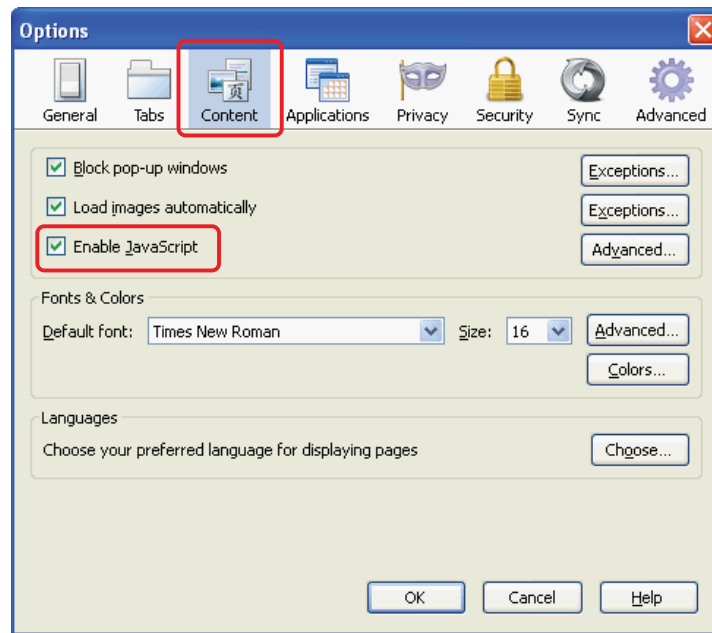

Figure 120. Scripts and Plugins Preferences
3. To enable JavaScript, click the **Content** tab and make sure that the **Enable JavaScript** check box is selected (see figure 120).